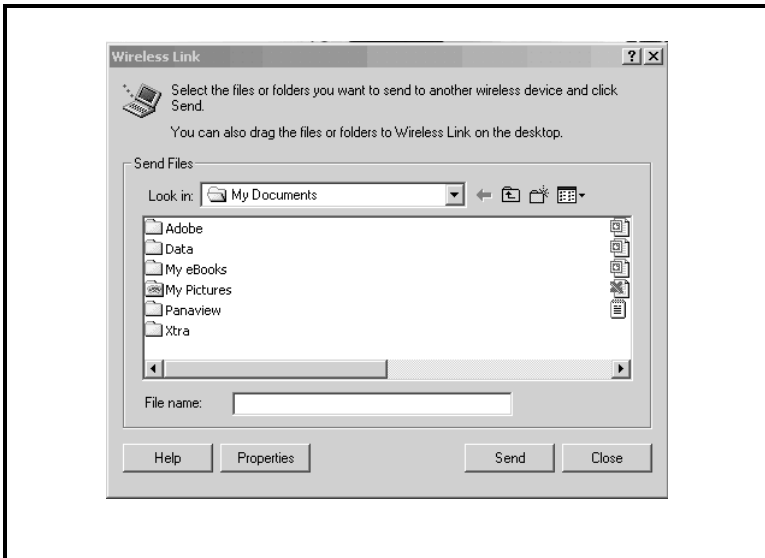

Figure 7-5: *Wireless Link* Window
1. Click on the *Infrared* icon in the System Tray -  . A window similar to Figure 7-5 below appears.
2. Click on the *Infrared* icon in the System Tray -  . A window similar to Figure 7-5 below appears.